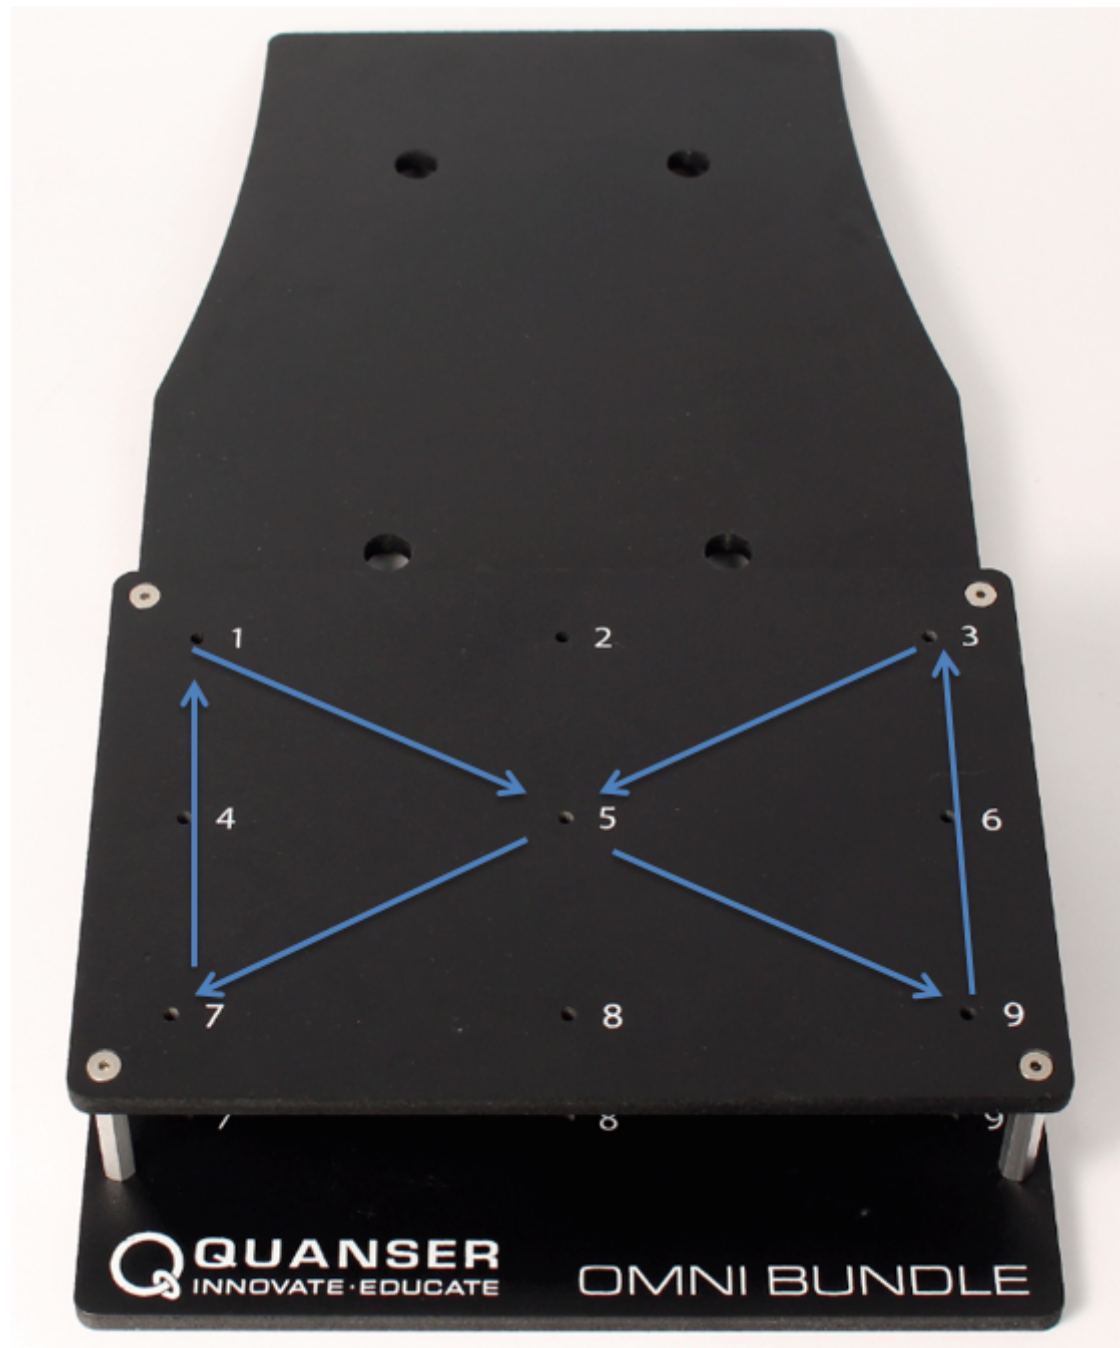

Figure 1: Path
**IN THE LAB:** Place the end effector at the points indicated in Fig. 1 (with some margin from the board) and take note of corresponding values in the configuration space.